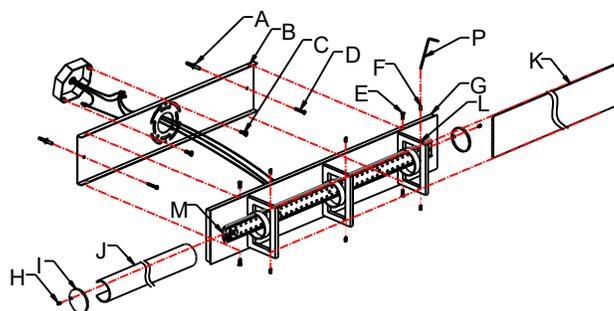

Fig. 2
CONNECTING THE WIRES (Fig. 2)
6. Connect the electrical wires as shown in Fig. 2, making sure that all wire connectors are secured. If your outlet box has a ground wire (green or bare copper), connect the fixture's ground wire to it. Otherwise, connect the fixture's ground wire directly to the mounting plate (B) using the green screw provided. After the wires are connected, tuck them carefully inside the junction box.